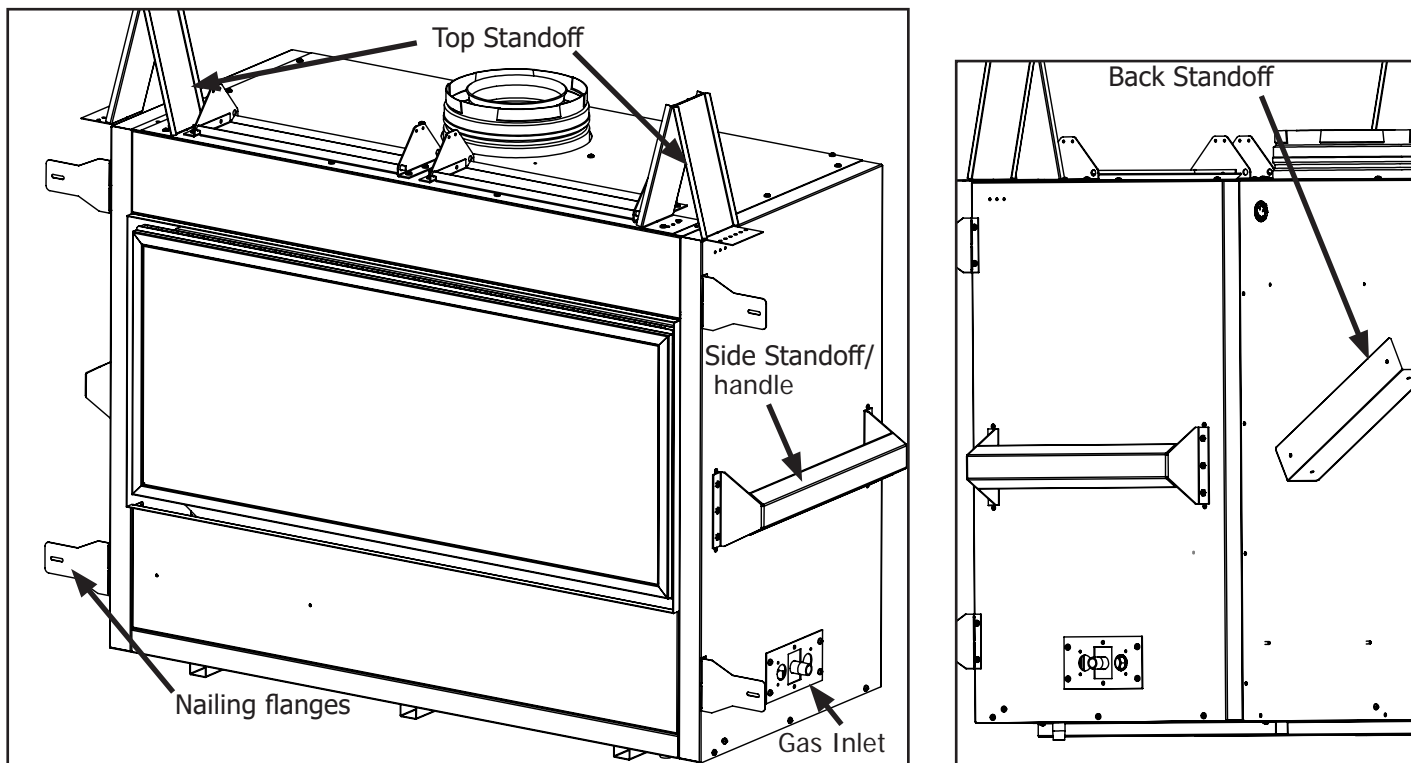

Figure 13: Fireplace Install Preperation
Take a minute to familiarize yourself with Figure 13 below.
- The top framing standoffs will need to be folded up and secured on one side with a T-20 screw, This can be seen in Figure 13.